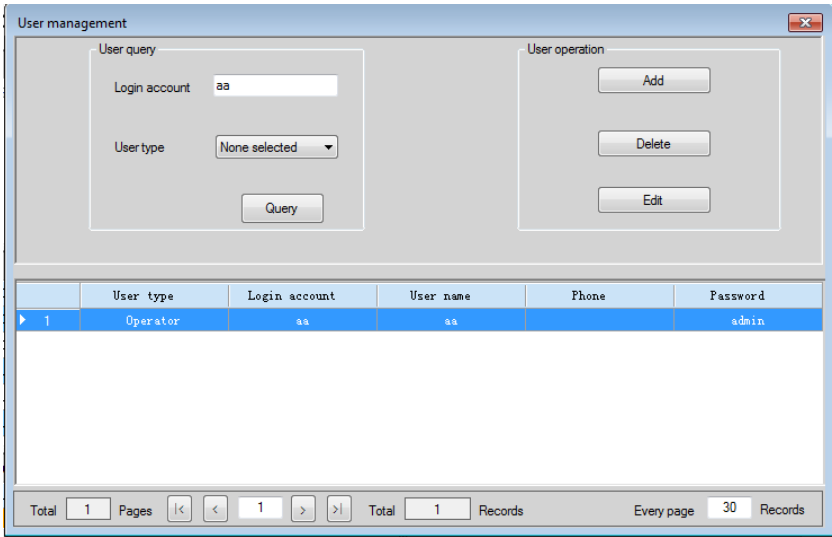

Fig.4.9 User management
- You can query user in Fig4.9 and the query condition includes:
- (1) User information: Input a login account and can see all information included by login account by clicking “Query” button.
- (2) User type: Click “User type” (see Fig.4.9) to view user information by selecting administrator, operator, browser.